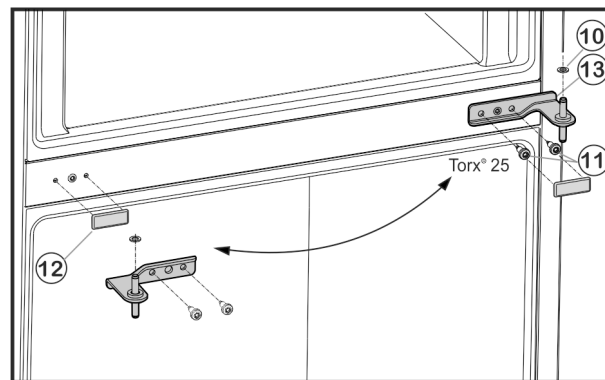

Fig. 6
- ▶ Unscrew the fastening screws Fig. 6 (11) (2 x Torx® 25) and pull the centre bearing block out of the lower door.
- ▶ Remove plastic washer Fig. 6 (10) .
- ▶ Remove the cover Fig. 6 (12) carefully.
- ▶ Re-install the cover Fig. 6 (12) on the opposite side.
- Insert the centre bearing block *Fig. 6 (13)* turned through 180° into the lower door and fasten firmly (**with 4 Nm**) to the new hinge side with the fastening screws *Fig. 6 (11)* (2 x Torx® 25).
- Refit plastic washer *Fig. 6 (10)*.
- Set the upper door down on the centre bearing block *Fig. 6 (13)*.